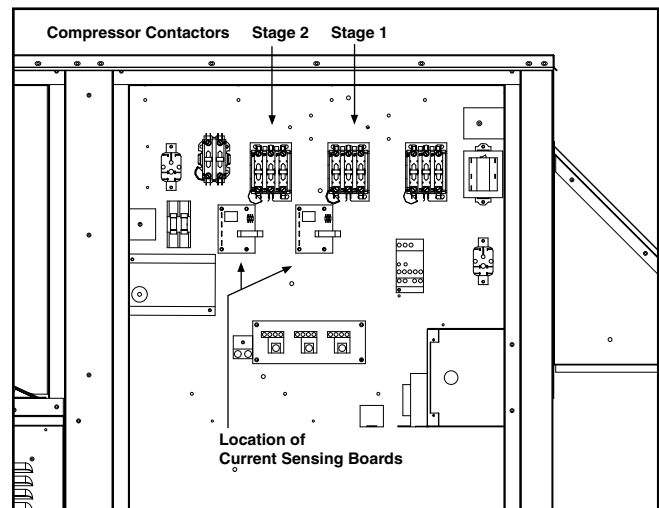

Figure 1.
2. Open Control Access Panel and locate Stage 1 and Stage 2 Compressor contactors. See Figure 1.
3. Attach one (1) supplied Red wire to Terminal # 3 and one (1) supplied Black wire to Terminal # 1 of each current sensing board. Use wire ends with single ¼" spade terminals for this step.
4. With screws provided secure the two sensing boards below each compressor contactor using mounting holes provided. See Figure 1.